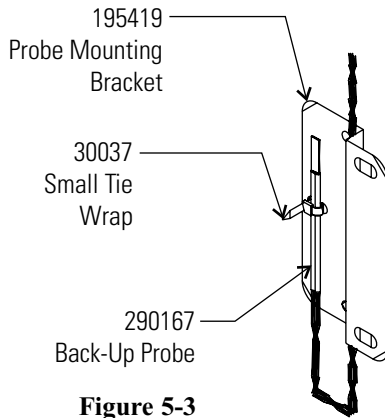

Figure 5-3
2. As in Figure 5-3, thread the small tie wrap through the openings in the front of the bracket. Secure the probe on the back of the bracket with the tie wrap.